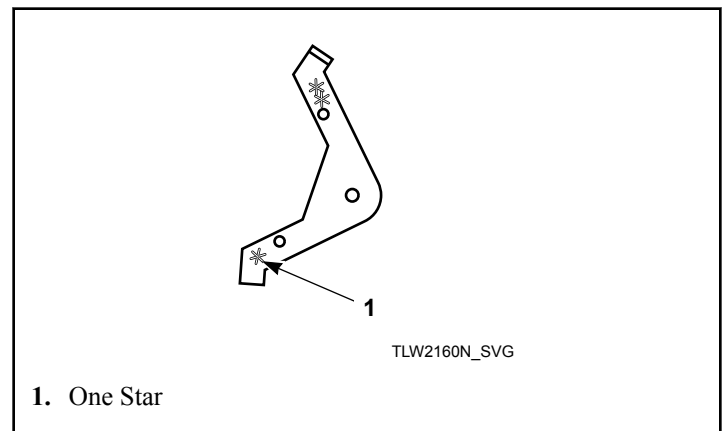

Figure 24
2. Install extension lever with arm that has one star facing down. Refer to *Figure 24*.